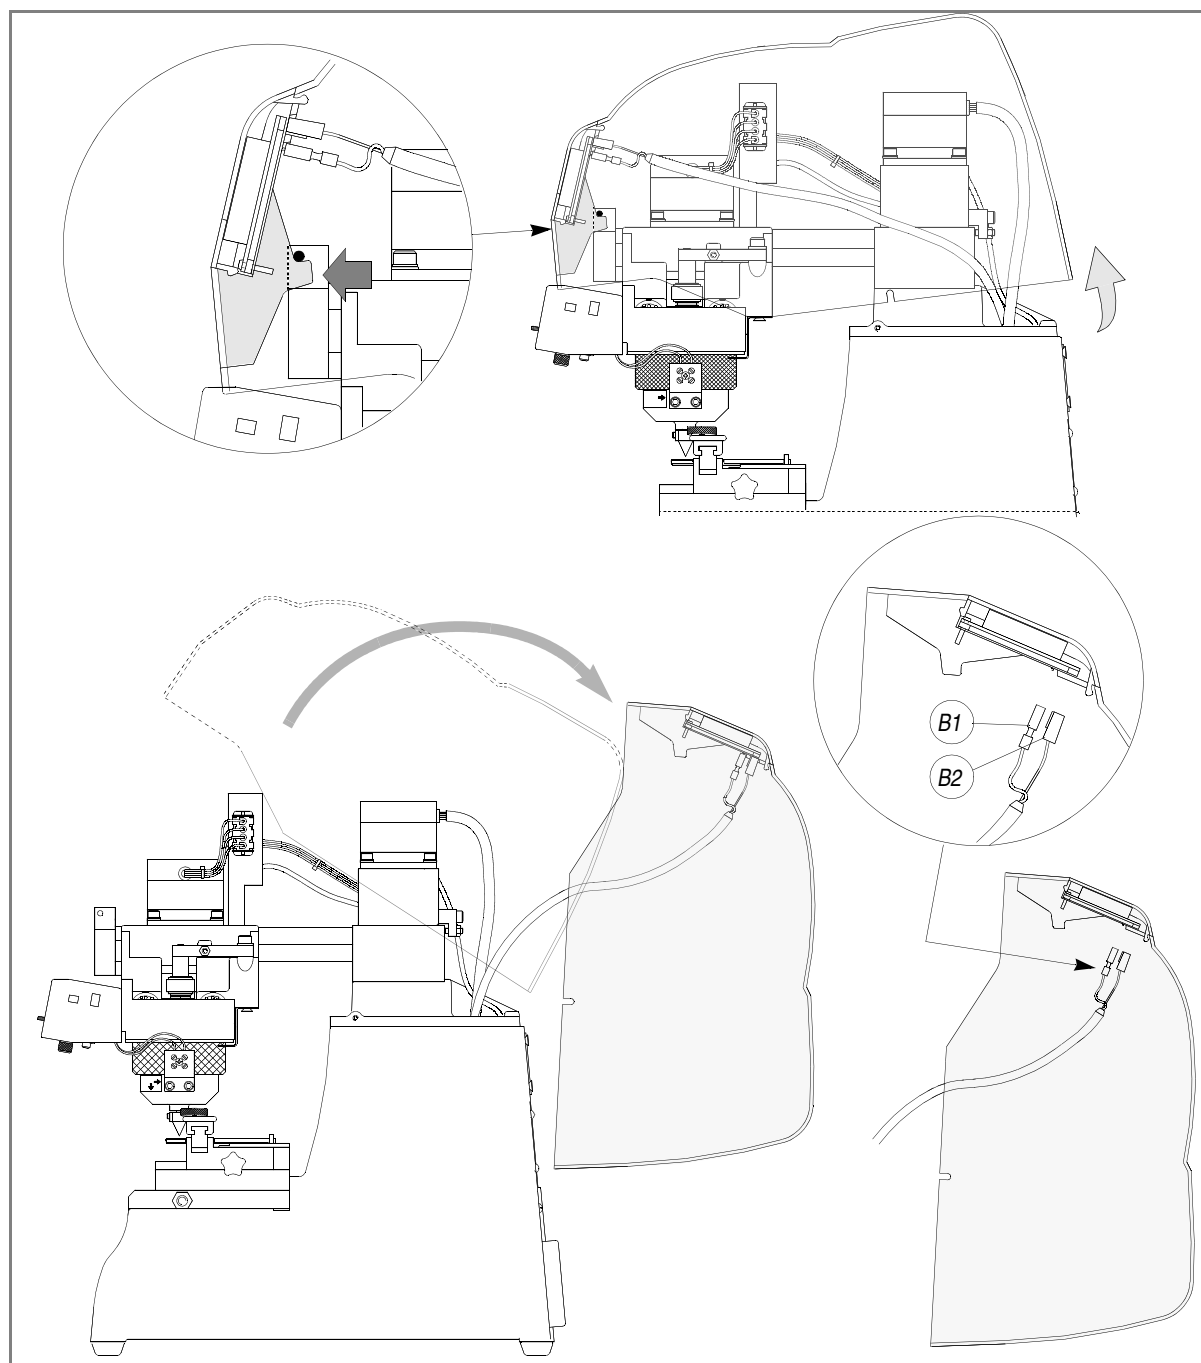

Fig. 34
- 3) slightly raise the rear of the cover and very carefully pull forward, releasing it from the front catches (fig. 34).